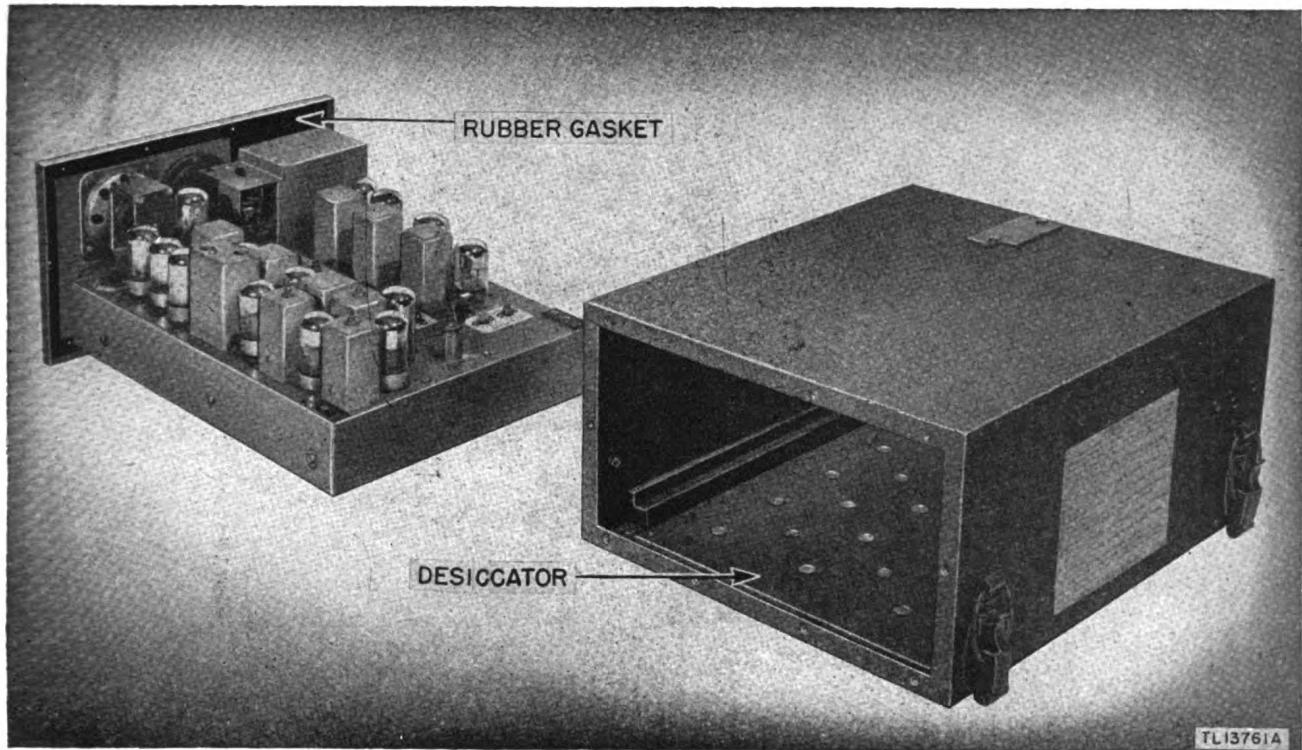

Figure 8. Radio Receiver and Transmitter BC-659-( ), desiccator and rubber gasket.
c. Although the case is weatherproofed by the use of rubber and packing gaskets at all points where moisture might enter, a silica gel desiccator (fig. 8) inclosed in a spun glass bag is used as an extra precaution to absorb any moisture which may get inside the case. This desiccator is not sufficient protection against tropical or subtropical humidity. Radio sets used where excessive humidity is present for long periods must be treated by spraying with moisture- and fungi-resistant varnish, unless already treated by the manufacturer.